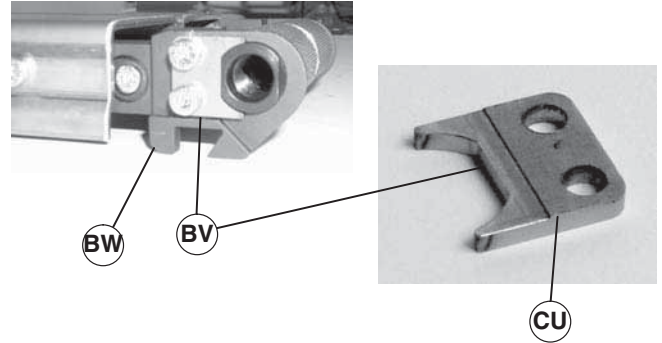

Figure 57
When installing clips (Figure 57, item BV), ensure step (CU) is toward head plate (BW).